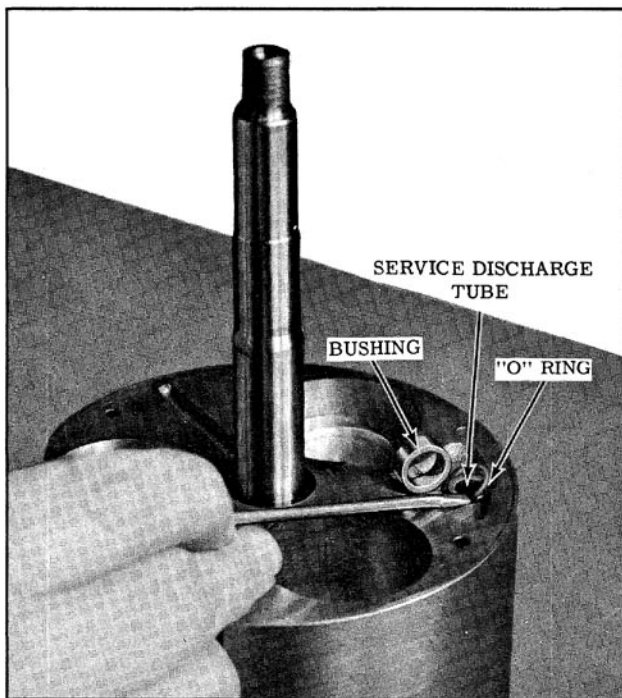

Fig. 14-124 Installing "O" Ring and Bushing
25. Install "O" ring and bushing over discharge tube. (Fig. 14-124)